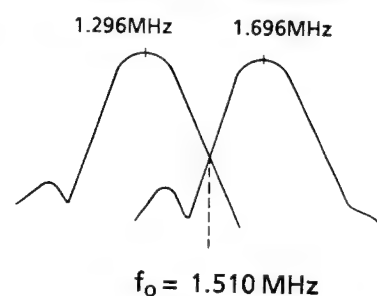

Figure 2-18
- (5) Adjust R6337 so that the spectrum is as shown in Figure 2-18. (2 spectrums overlap at 1.51 MHz.).